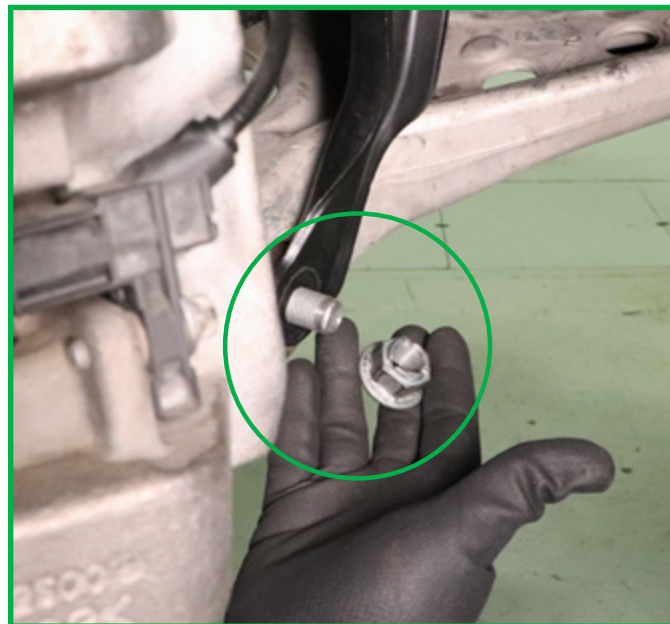

FIGURE 11
10. Remove lower strut mount nut. Leave the bolt in place. (Figure 11)